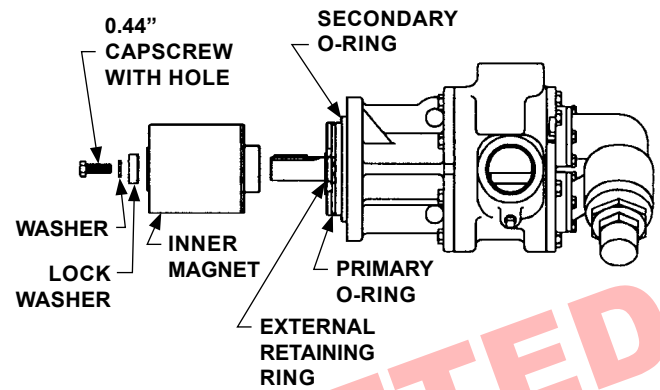

FIGURE 11
4. Insert a brass bar through a port between two rotor teeth and loosen the capscrow holding the inner magnet to the shaft (See Figure 11). Do not forget, this is a very strong magnet. If pump disassembly is required, remove the external retaining ring.